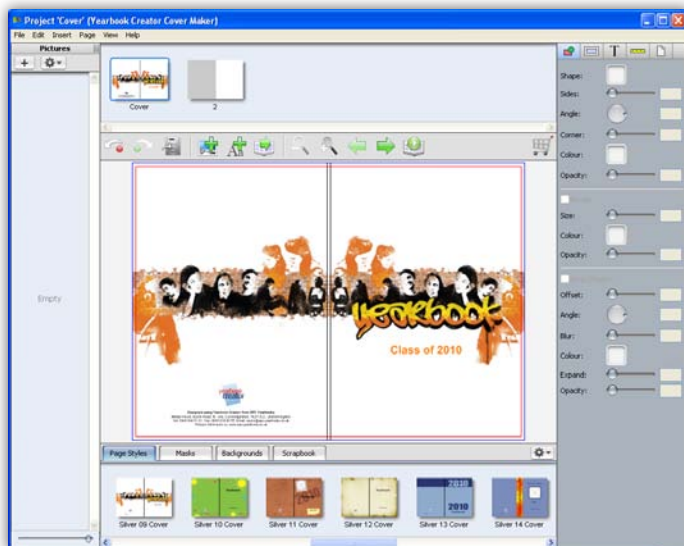

Figure 12: The Cover Creator
- Click *Next* to open the Cover Maker in the main program window (see Figure 12)